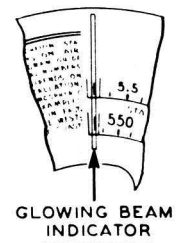

Fig. 3. Dial Calibration.
2. Holding the tuning condenser in this position, loosen the dial clamp; then turn the dial until the indicator is centered on the middle index line (See Fig. 3). Tighten clamp in this position.